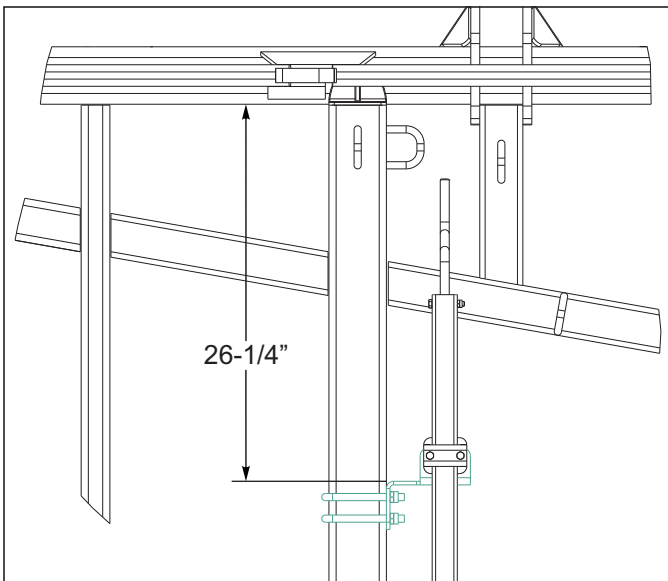

Figure 3-1: DCV Mount Placement
6. Attach the DCV mount bracket to the side of tube of LH center frame assembly with 1/2 x 5-1/4 x 6-1/16 u-bolts and 1/2 lock nuts. *See Figure 3-1* for placement.